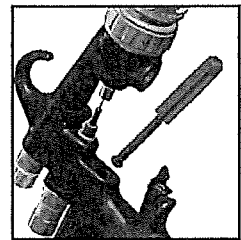

Fig. 30
5. Hook out rear seal using Service Tool. (See figs 30 & 31)